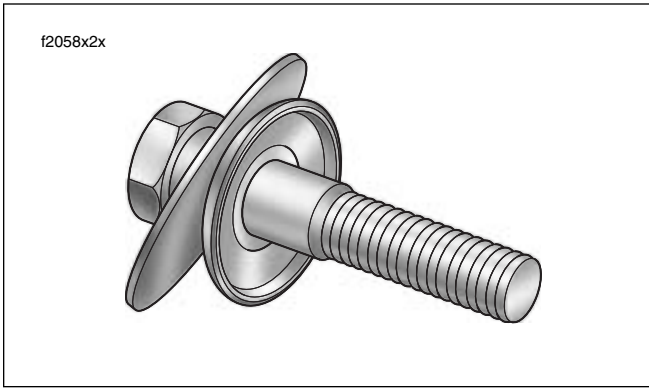

Figure 2-124. Remove Bolt, Large Washer and Lower Cup Washer (Right Side)
6. Moving to bottom of upper fork bracket, remove bolt, large flat washer and cup washer. See **Figure 2-124**.
3. Install large flat washer and cup washer on bolt. See Figure 2-124. Insert bolt into bushing fitting concave side of cup washer over collar of bushing.